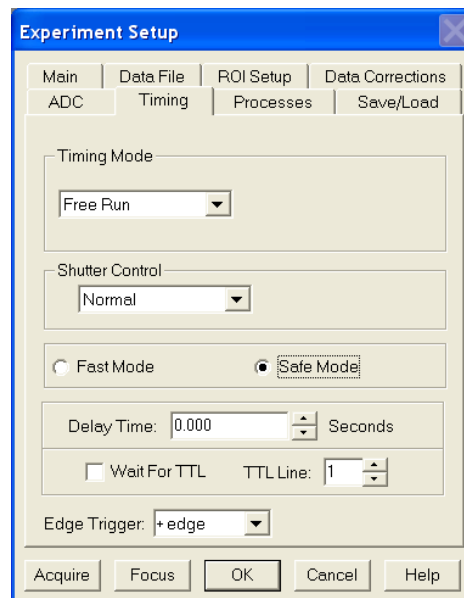

Figure 30. Experiment Setup dialog
- On the **Timing** tab (Figure 30) set the following parameters.